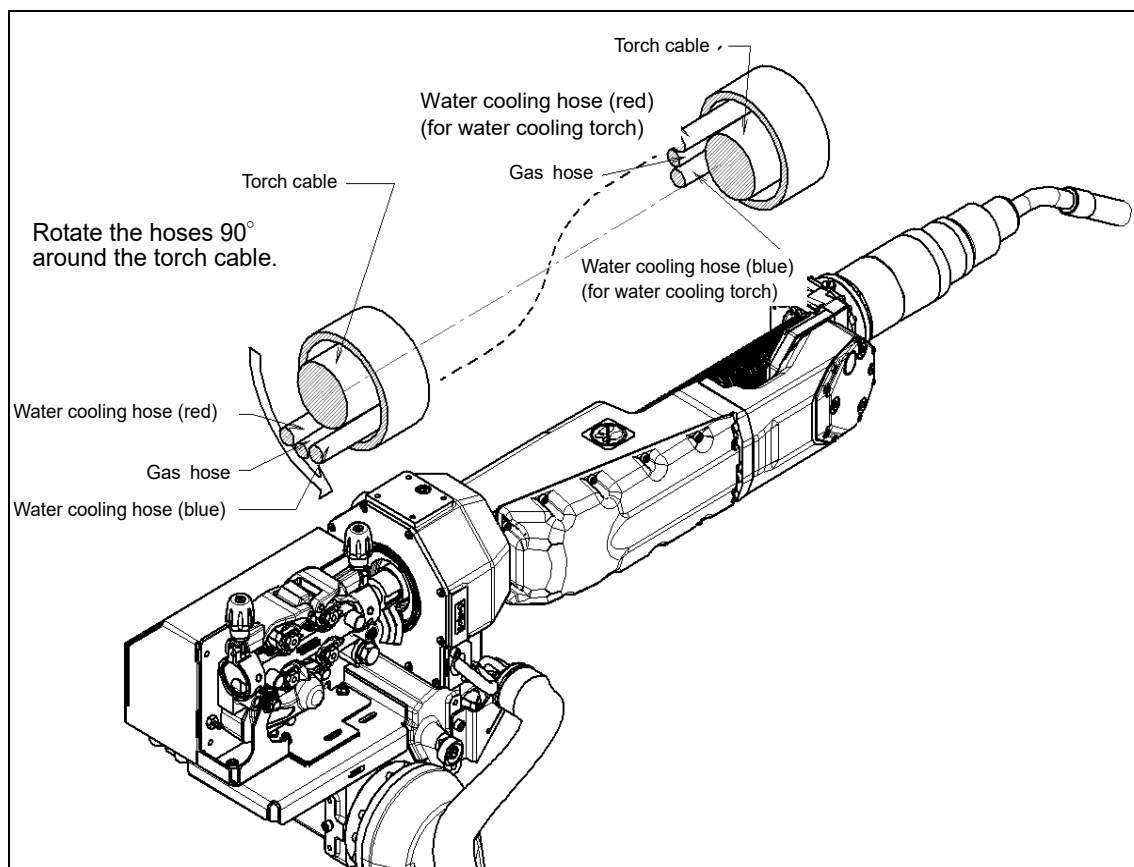

Fig. 7.4 (h) Arrangement of the cables and hoses
- 16 Attach fixation 2 bolts of torch side referring to Fig. 7.4 (c). Tighten black bolt with torque of 7.5Nm.